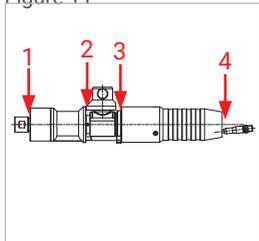

Figure 12
- ▶ Check the following measuring points (*Figure 12*):
- WEH® Service receptacle (1)
- guide bush and swivel joint (2)
- swivel joint and protective sleeve (3)
- fitting (4)